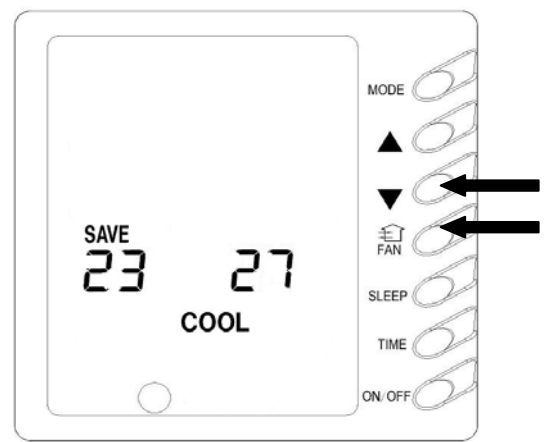

Fig. 9
8) Energy-saving Setting (Fig. 9)
setting shall not exceed the range of energy-saving setting. For example in Fig. 9, if we set the lower limit of cooling temperature to 23℃ and the upper limit to 27℃, the user can only set the cooling temperature between 23℃ and 27℃ by using remote controller and pressing from display.